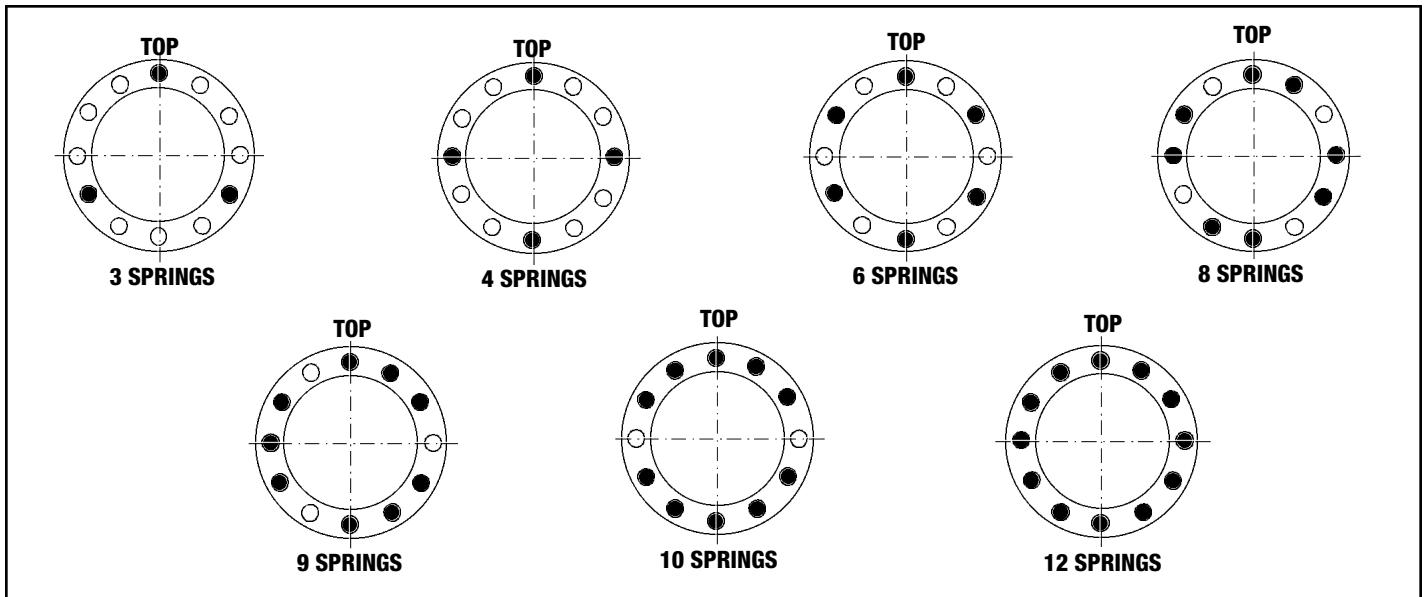

Figure 5.2 - Small E-Stop Brake Spring Placement
8. Lay the brake with the Piston Housing (#8) in an up position. Lift the Piston Housing (#8) off the End Housing (#16). Make a sketch of the placement of the Springs (#40). This will help at Reassembly. Remove the Springs (#40). **Correct spring placement is also shown in Figure 5.2 for torque adjustment in the field.**
9. Remove the (3) Screws (#65) and (3) Lockwashers (#73) from the Thrust Plate (#5) and separate the Thrust Plate (#5) from the Piston (#3). Push the Piston out of the Piston Housing (#8).
10. If the Piston Seals need replaced then pry the Liner (#51) and (2) O-Rings (#44) out from the Piston (#3). Remove the Liner (#50) and O-Ring (#43) from the Piston Retainer (#8).
- Place the correct number of Springs (#40) over the Pins (#54) in the End Housing (#16) for your desired Torque. See Figure 5.2 for correct spring placement. White grease can be used to hold them in place.
- Attach the End Housing (#16) to the Piston Housing (#8) with the (6) Lockwashers (#74) and (6) Screws (#66). Tighten in an even manner to compress the springs properly. **Torque to 25 Ft. Lbs.**